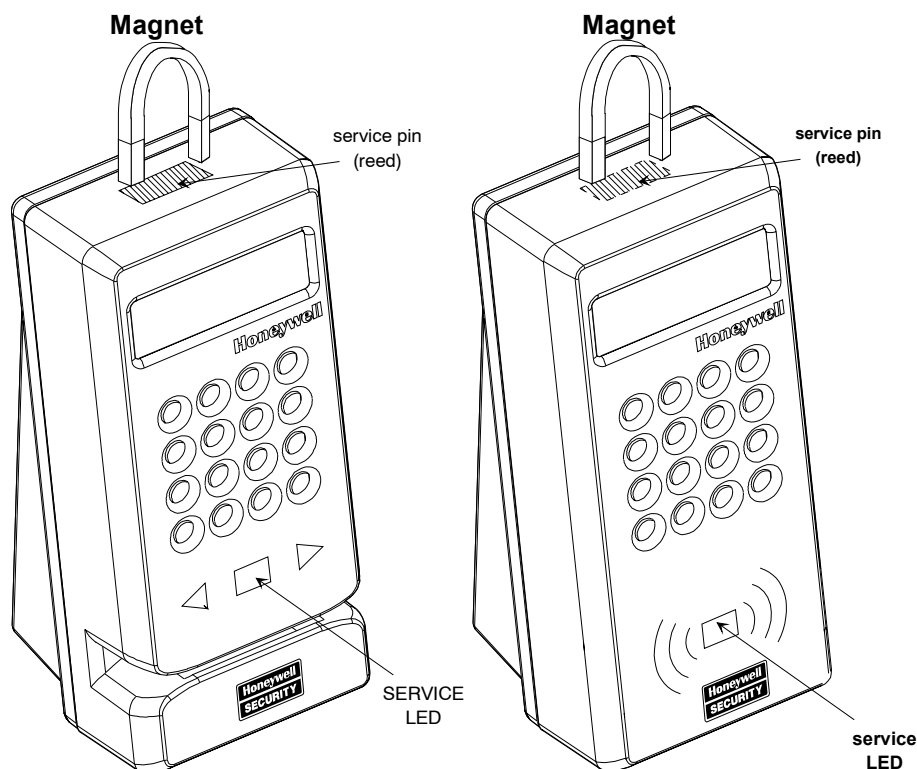

Figure 13: Using a magnet to call the service pin
To identify the node, you can call the service pin by means of a relay-reed located inside the unit (see Figure 13). This procedure consists of the following steps:
1. Position a small magnet as illustrated in Figure 13 to call the service pin. This signal is linked to the yellow central service LED, which flashes throughout the node configuration procedure.